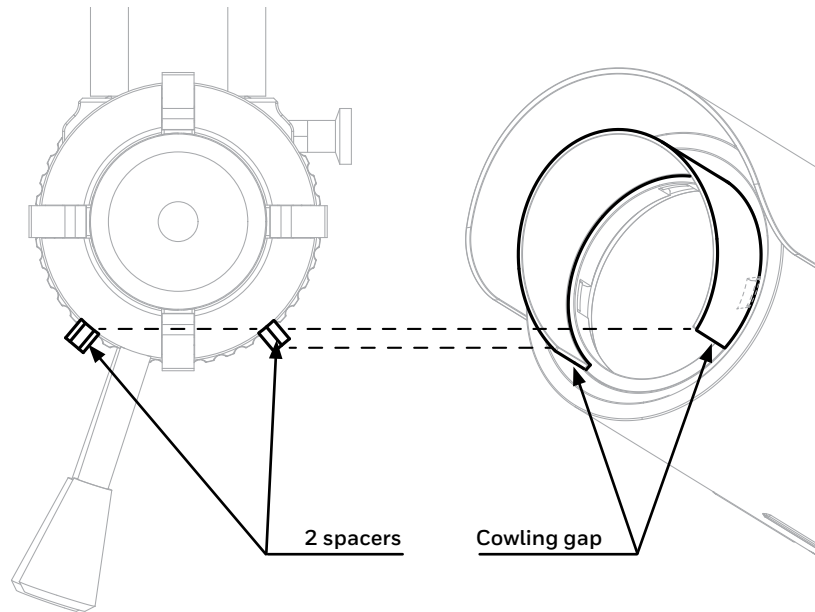

Figure 33. Aligning spacers to cowling gap
2. Align the Alignment Scope's **two spacers** with the instrument's **cowling gap** (see Figure 33).